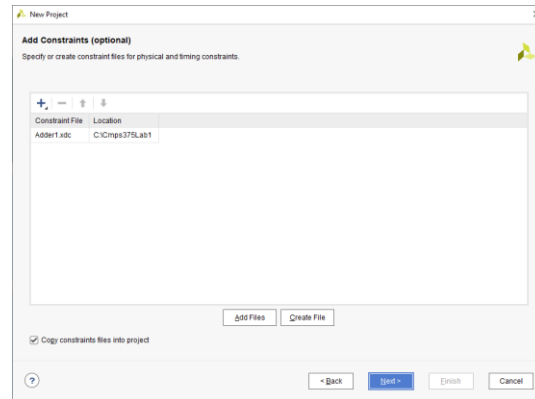

Figure 5. Add Constraints Form
- g. In the *Add Constraints* form as shown in Figure 5, click the *Add File* button, then browse directory, select **Adder1.xdc**.